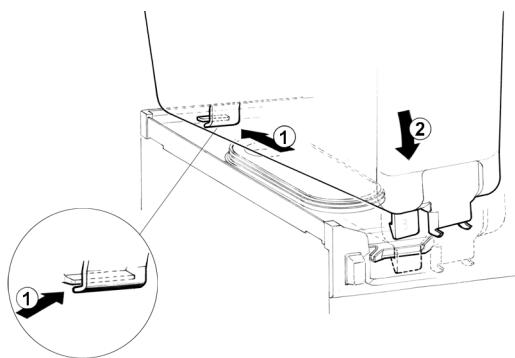

figure 8
- Place bowl on the unit. Wet the gasket for ease of insertion. Please take care that the hook on the backside of the bowl be inserted properly in its seat on the upper drip plate. (see figure 8).